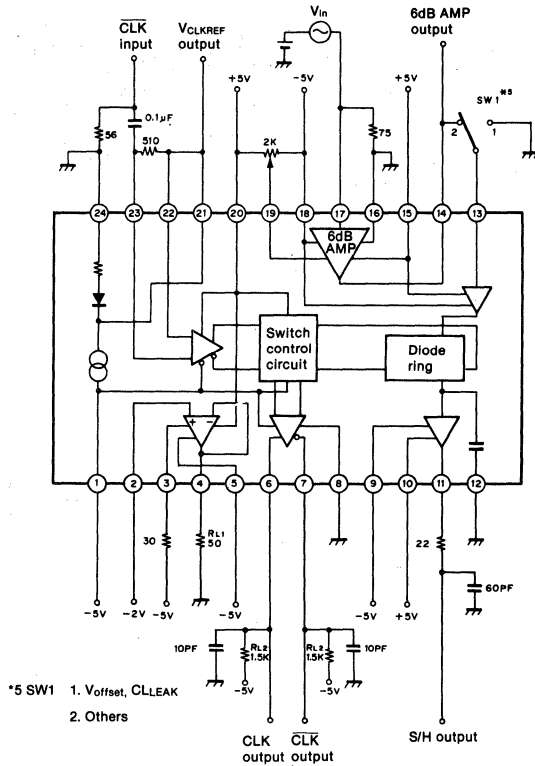

Fig. 3
**6dB amp section (see Fig. 3)**
\*3 2ndary harmonic: -40dB  $f_{in} = 3.58MHz$ \*4  $f_{in} = 3.58MHz$   $V_{in} = 1V_{p-p}$ **CLK OUT section (see Fig. 3)**
**-2Vref amp section (see Fig. 3)**